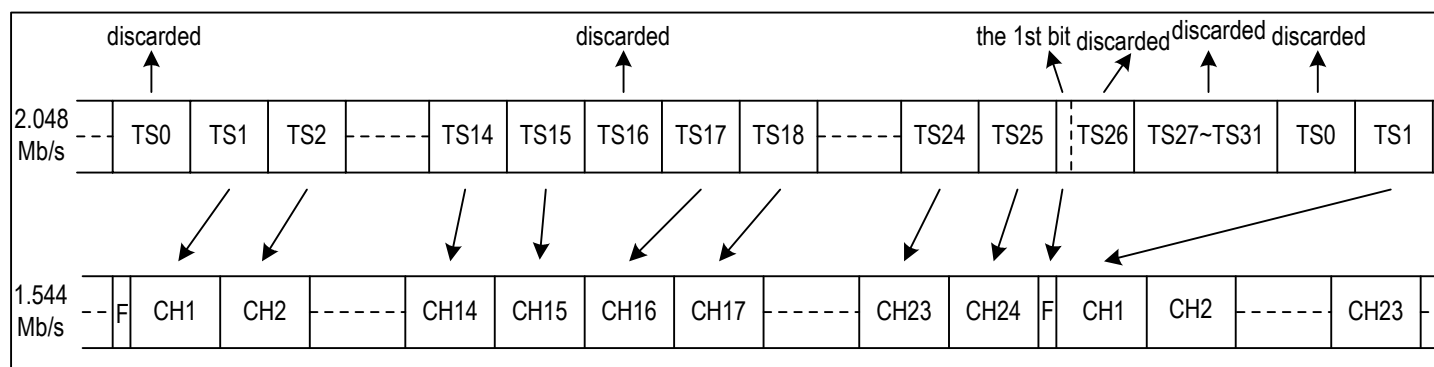

Figure 25. E1 To T1/J1 Format Mapping - G.802 Mode
1. T1/J1 Mode E1 Rate per G.802 (refer to Figure 25): TS1 to TS15 of Frame N on the system side are converted into Channel 1 to Channel 15 of Frame N to the device; TS17 to TS25 of Frame N on the system side are converted into Channel 16 to Channel 24 of Frame N to the device. The first bit of TS26 of Frame (N-1) on the system side is con-